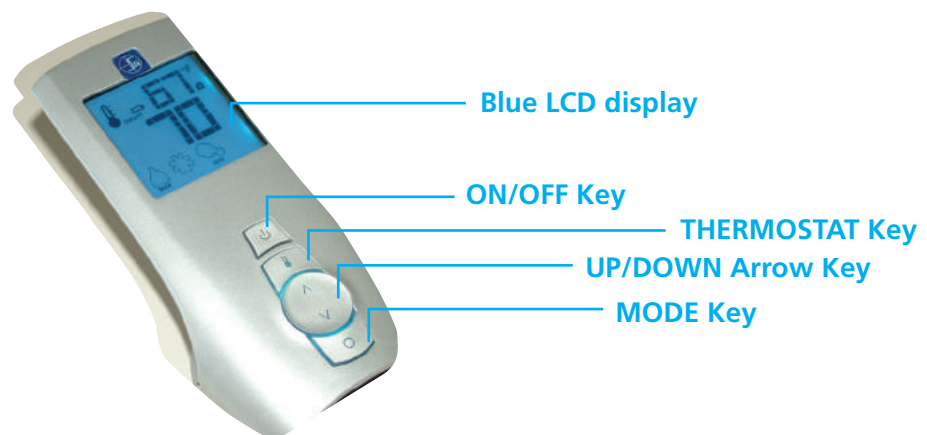
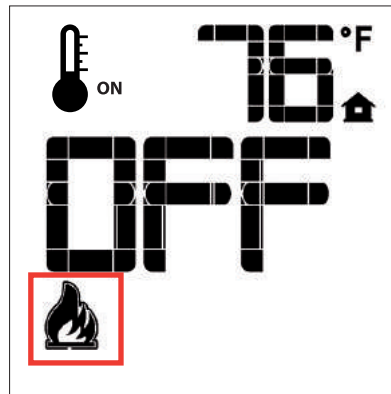

Fig. 1: Proflame Transmitter.
Fig. 9A: Flame Off
The Proflame Transmitter uses a streamline design with a simple button layout and informative LCD display with blue back light (Fig.1). The transmitter is powered by 3 AAA type batteries. A Mode key is provided to index between the features and a Thermostat key is used to turn on/off or index through thermostat functions (Fig. 1 & 2A & 2B & 2C & 2D).
Proflame GT: with the system on, and the flame present in the appliance, pressing the Down Arrow Key (Fig. 1) will turn OFF the flame while the remote system is still on. If the Up Arrow Key is pressed while in the above described state the flame will come on. (Fig. 9A & 9D)
Proflame GTM & GTMF: has six (6) flame levels. With the system on, and the flame level at the maximum in the appliance, pressing the Down Arrow Key (Fig. 1) once will reduce the flame height by one step until the flame is turned OFF.
The Up Arrow Key will increase the flame height each time it is pressed. If the Up Arrow Key is pressed while the system is on but the flame is off, the flame will come on in the high position. (Fig. 9A & 9B & 9C & 9D) A single "beep" will confirm reception of the command.